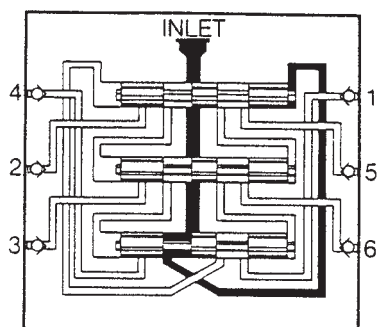

FIGURE 1
**FIGURE 1:** The inlet is connected to all piston chambers with only one piston free to move at any one time. With all pistons at the far right, lubricant flows against the right end of piston 1.